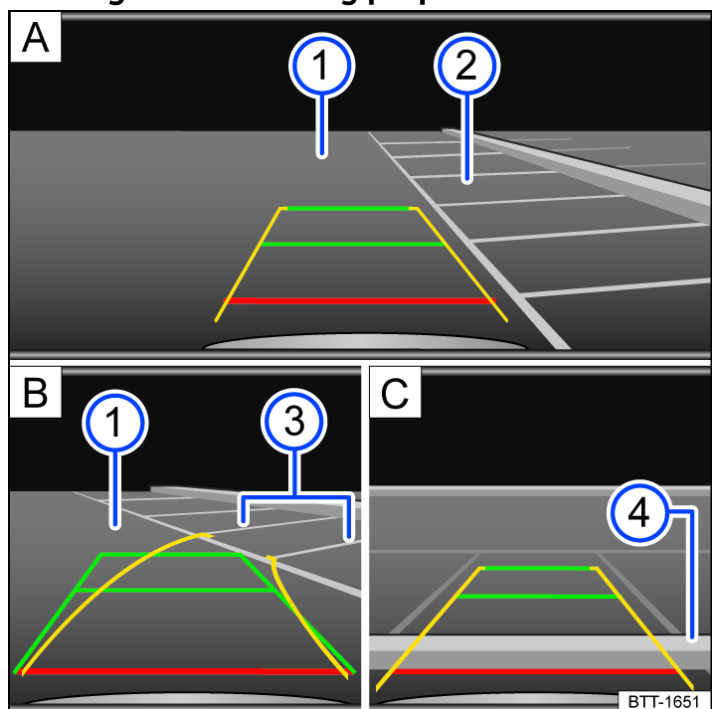

Fig. 1 Infotainment system: Parking perpendicular to the road.
3. Position your vehicle in front of the parking space → *fig. 1 A* **2**.
4. Steer so that the yellow lines lead into the parking space. The green and yellow lines must align with the side boundary lines → *fig. 1 B* **3**.
5. Stop when the red line reaches the rear boundary → *fig. 1 C* **4**.